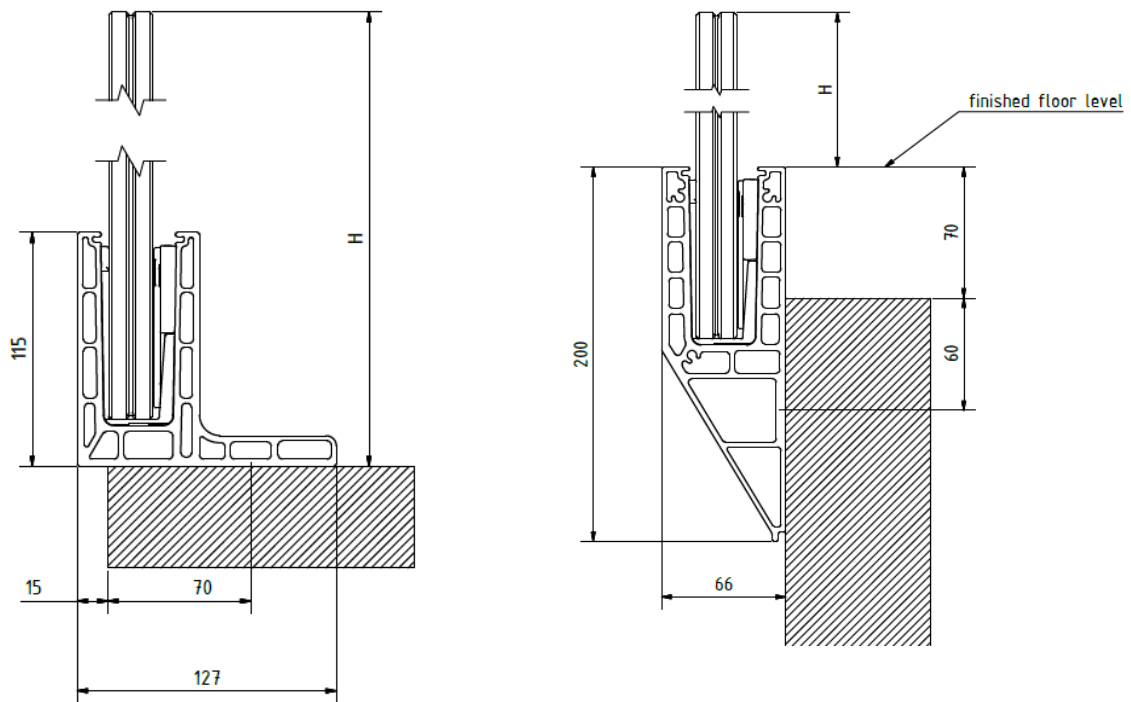

Figure 3: sketches for clarification of the profile positionings on the concrete
E.G. Smart Y is fixed with an overhang of 70 mm, E.G. Smart F with 15 mm according to the catalogue and indicated in Figure 3. E.G. Smart fascia is mounted without an overhang.